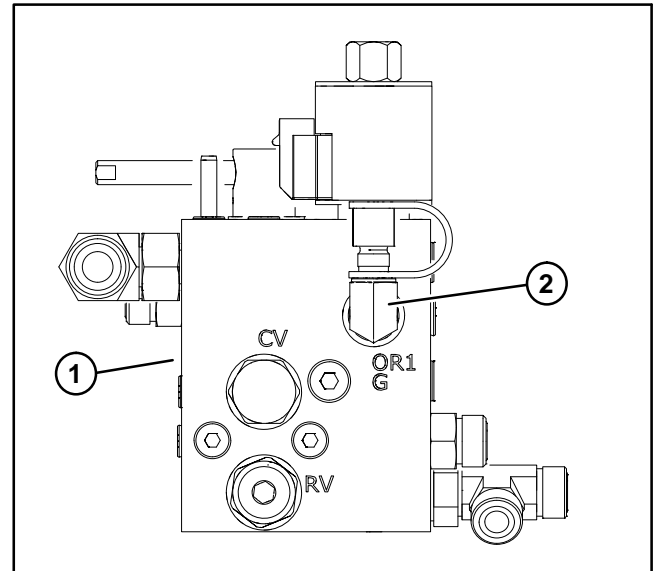

Figure 28
4. Remove cap from test fitting at mow control manifold port (OR1/G) and install a pressure gauge with hydraulic hose to the test fitting (Fig. 28).